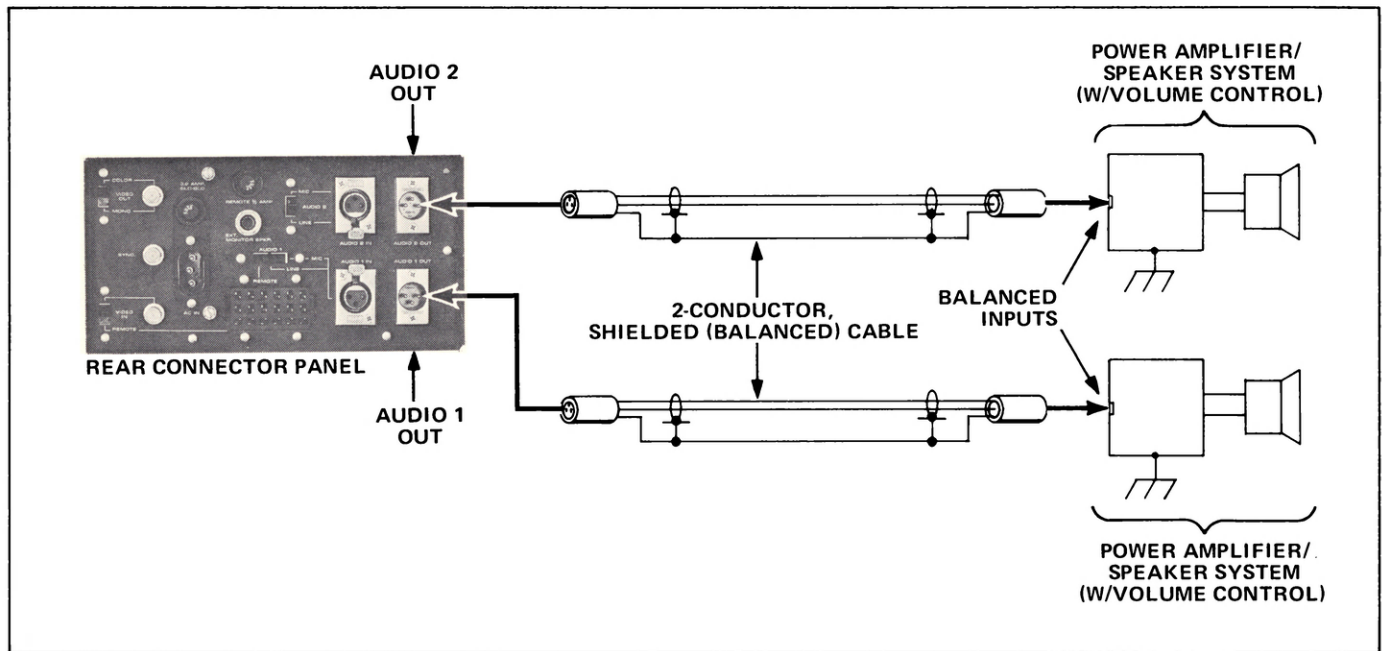

Figure 6 Connections Required for Audio 1 and Audio 2 Remote Playback and E-E Monitoring
2. Connect an amplifier/speaker system to the Audio 1 Out receptacle and one to the Audio 2 Out receptacle for remote playback or E-E monitoring of the two audio channels if desired. Reference figure 6 for connections using balanced cables.
2. Connect an amplifier/speaker system (two, if both audio channels are used) to the Audio 1 Out and/or Audio 2 Out receptacles if remote playback reproduction or E-E monitoring of the two audio channels is desired (Reference figure 6 for connections).